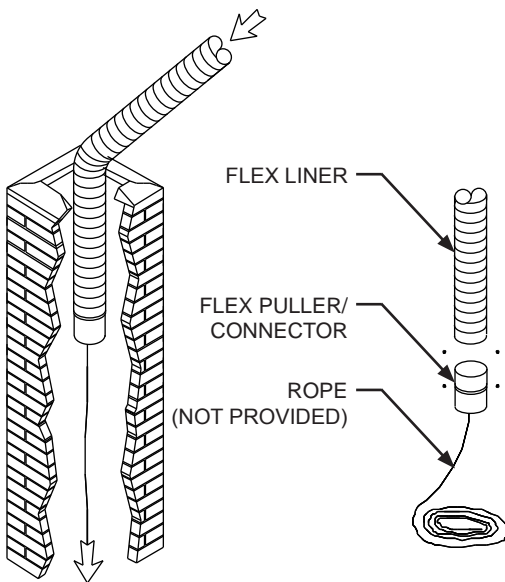

FIG. 2
**Step 2.** Insert a rope through the end of the Flex Connector and tie a knot at the end of the rope. Attach the Flex Connector to the Flex Liner using four sheet metal screws as shown (See FIG. 2). Carefully feed the liner down the chimney (masonry or zero clearance) and out through the damper. One person should feed the liner through the chimney bottom.